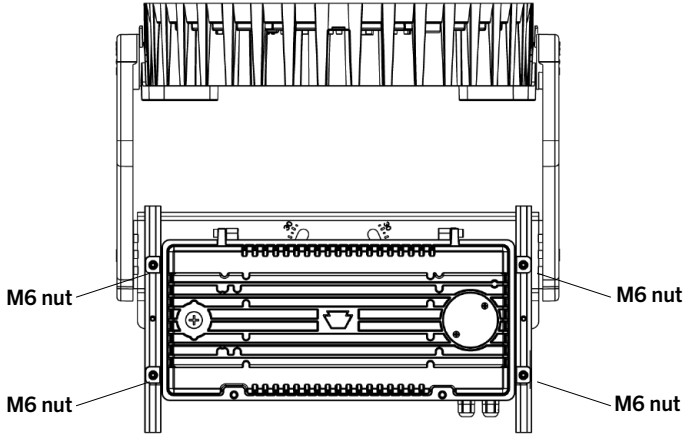

Figure 1
- To properly mount this sports light, the driver box must be moved from its pre-installed position. To move the driver box, loosen the (4) M6 nuts as shown in Figure 1.